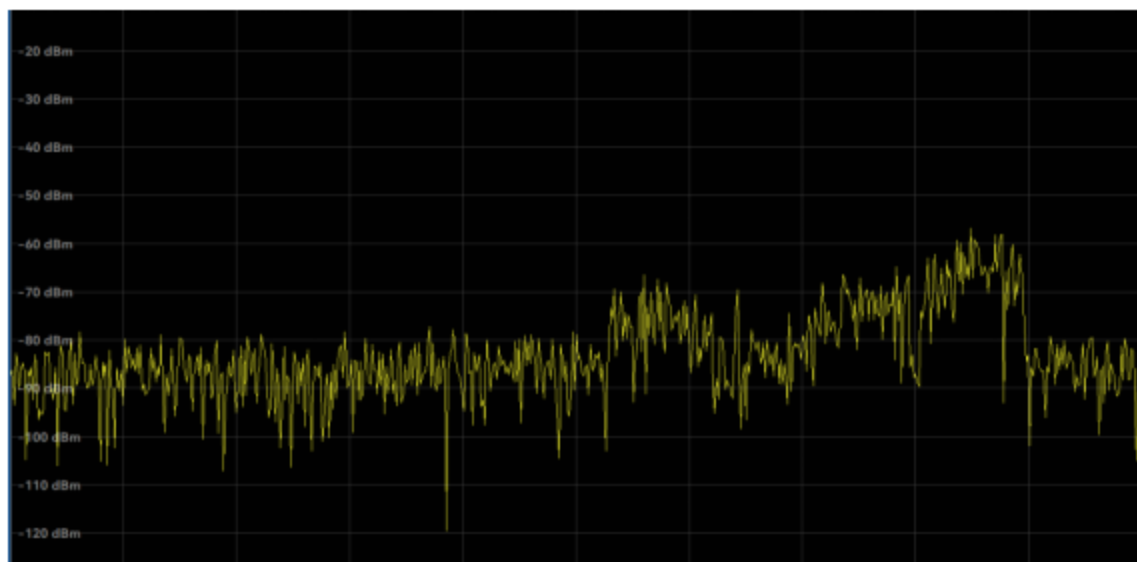

Figure 7.22 Signal ID measurements
Step 6. Signal ID measurement result is shown in Figure 7.22. The signal distribution of the public network within the 1.7GHz~1.9GHz range can be seen.